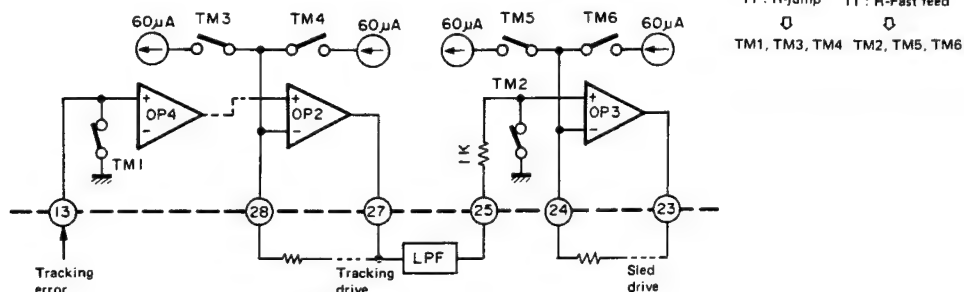
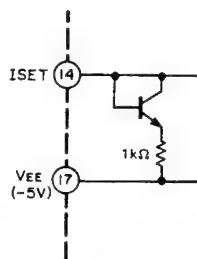

Fig. 6-15 TM1 ~ TM7
Fig. 6-16 ISET terminal
The circuit composition is shown in Fig. 6-15. TM1, TM2 make servo ON/OFF, and TM3~TM6 produce jump pulse and fast feed pulse. See truth value table for details.
Figure 60μA is observed in Fig. 6-15. This value is of the case where 240μA is fed to ISET (14) terminal like SF1. The circuit of (14) terminal is as shown in Fig. 6-16. Therefore, the potential is around (-)VEE + 0.9V.
1) DIRC (②⑥) terminal and single track jump